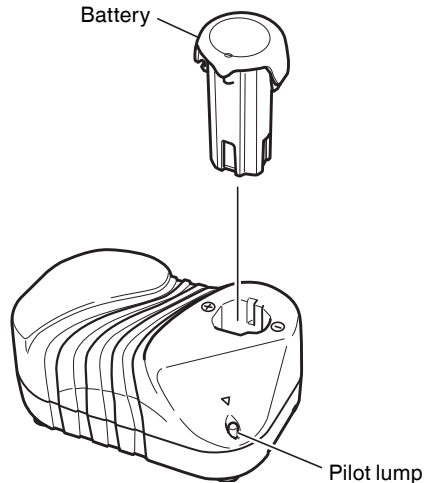

Fig. 4
2. Insert the battery to the battery charger. Insert the battery into the battery charger as shown in Fig. 4.